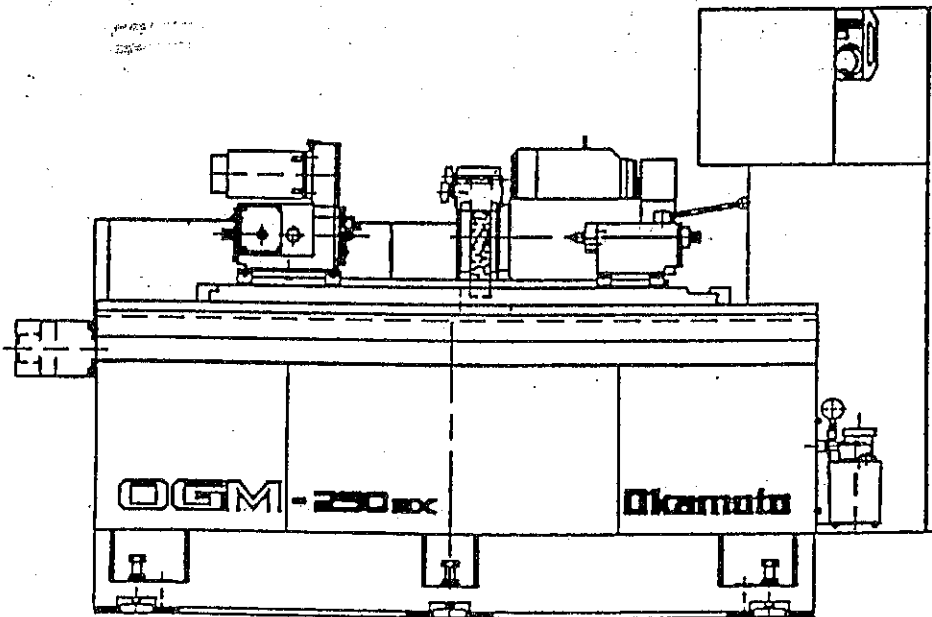

Fig. 4-9 Attaching the Panels
OGM-200 (8) Series : ▶ See Fig. 4-9